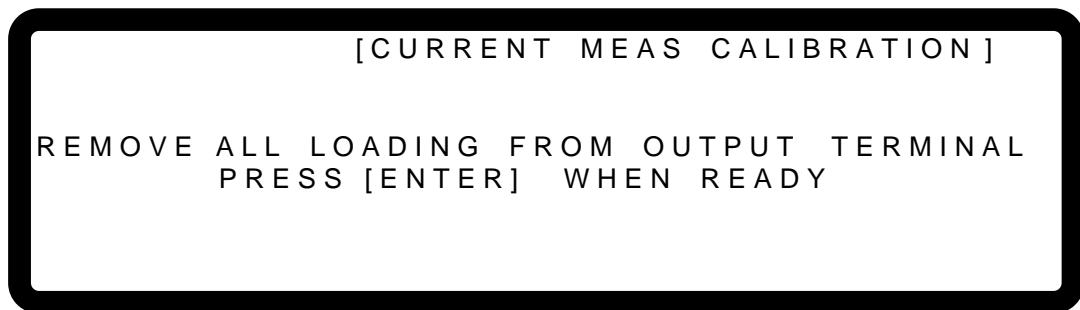

Figure 3-111
3. Press “**ENTER**” to display the current calibration options shown in Figure 3-111.